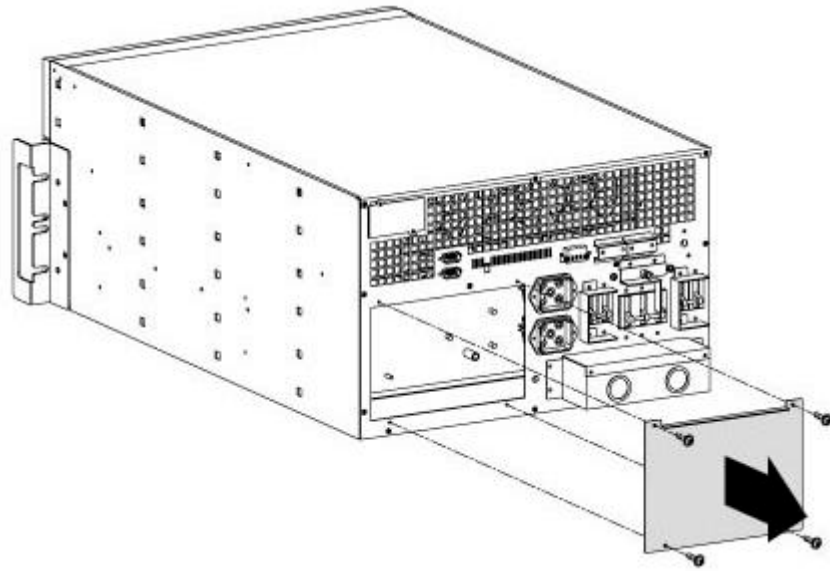

FIG 39 – PDU COVER REMOVAL 10KVA UPS
5. On the 10kVA model, loosen the four mounting screws (FIG 39) on the PDU cover and remove it.